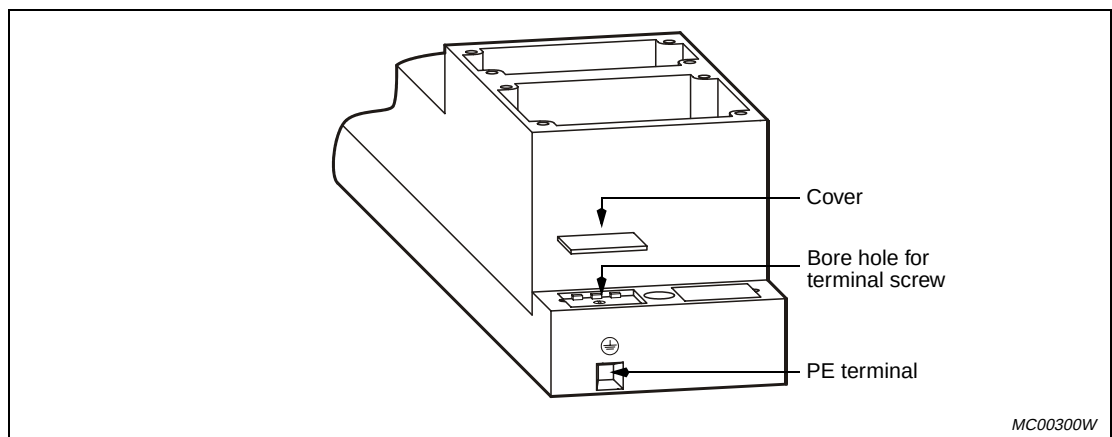

Fig. 5-4: PE connection terminal below the labelling field
The PE terminal must be connected lowly resistive to the protective earth (see fig. 5-4).
- ① Remove the screws from the plug-in unit and remove the plug-in unit.
- ② Strip the insulation and prepare the cable (see section 5.4.2)
- ③ Screw down the PG9 screw fitting on the plug-in unit. Close unused fittings with sealing caps.
- ④ Lead the cable through the PG9 screw fitting.
- ⑤ Connect the cable to the terminal (for an easier connection the terminal can be removed at the side from the plug-in unit).
- ⑥ Tighten the PG9 screw fitting.
- ⑦ Plug in the plug-in unit and fasten the screws.
- ⑧ Connect the protective earth lowly resistive to the PE terminal of the housing (see fig. 5-4).